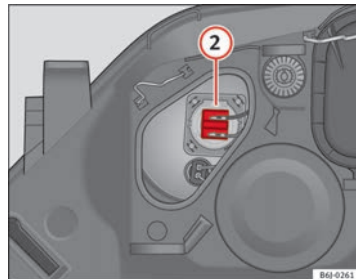

Fig. 151 Main beam headlights
- Remove connector ⇒ fig. 151 ② by pulling outward.